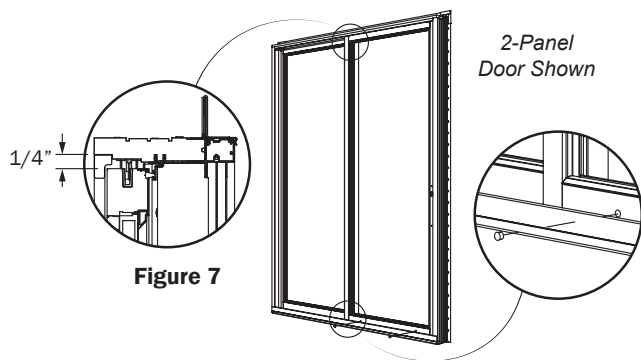

Figure 7
9. To adjust the panels, the rollers can be accessed using the holes on the face of the bottom rails. Each roller can be adjusted separately using a phillips head screwdriver. Turning clockwise raises the panel and counter clockwise lowers the panel. Adjust until panel glides smoothly on the track and panel is plumb and level with the head. Top of panel should be approximately 1/4" from the head (Figure 7).